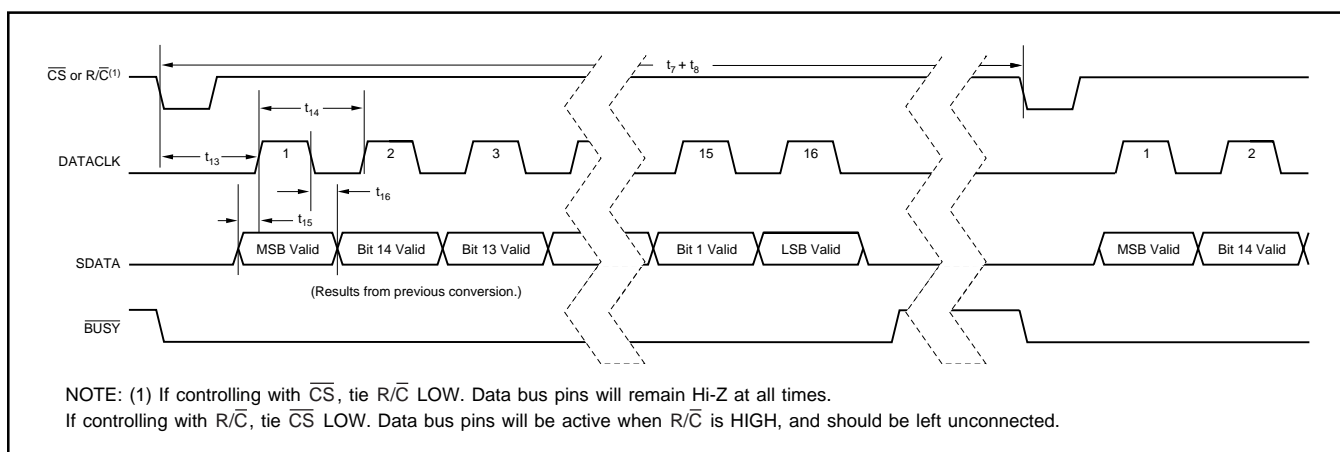

FIGURE 4. Serial Data Timing Using Internal Data Clock (TAG tied LOW).
NOTE: (1) See Figures 4, 5, and 6 for constraints on data valid from conversion "n-1".
To use the internal data clock, tie  $\text{EXT}/\overline{\text{INT}}$  (pin 8) LOW. The combination of  $\overline{\text{R}/\overline{\text{C}}}$  (pin 22) and  $\overline{\text{CS}}$  (pin 23) LOW will initiate conversion 'n' and activate the internal data clock (typically 900kHz clock rate). The ADS7807 will output 16 bits of valid data, MSB first, from conversion 'n-1' on SDATA (pin 19), synchronized to 16 clock pulses output on DATACLK (pin 18). The data will be valid on both the rising and falling edges of the internal data clock. The rising edge of  $\overline{\text{BUSY}}$  (pin 24) can be used to latch the data. After the 16th clock pulse, DATACLK will remain LOW until the next conversion is initiated, while SDATA will go to whatever logic level was input on TAG (pin 20) during the first clock pulse. Refer to Table VI and Figure 4.